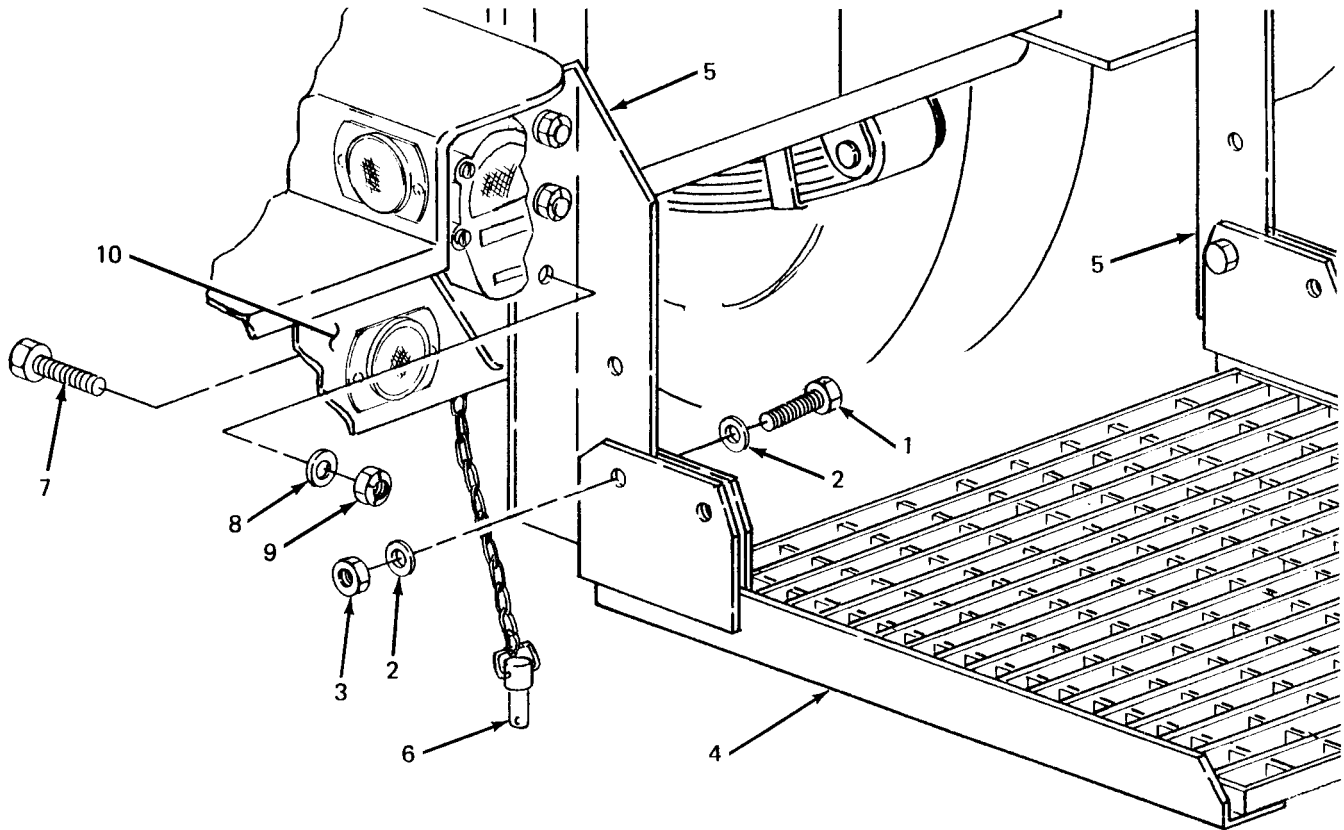

Figure 4-11. Personnel Perform Replacement
- (4) Insert five screws (1) with flat washers (2) down through fender (4) into trailer frame (5).
- (5) Working under fender, install one flat washer (2) and one nut (3) on each screw (1) and tighten.
- (6) Insert six screws (6) with flat washers (7) through fender (4) into front step (9). Install one washer (7) and one nut (8) on each screw (6) and tighten.
- (7) Insert four screws (10) with flat washers (11) through fender (4) into rear step (13). Install one washer (11) and one nut (12) on each screw (10) and tighten.
**4-23. Personnel Platform Replacement.** (See figure 4-11). The platform is mounted to the rear of the trailer to facilitate access to the generator set controls and indicators.